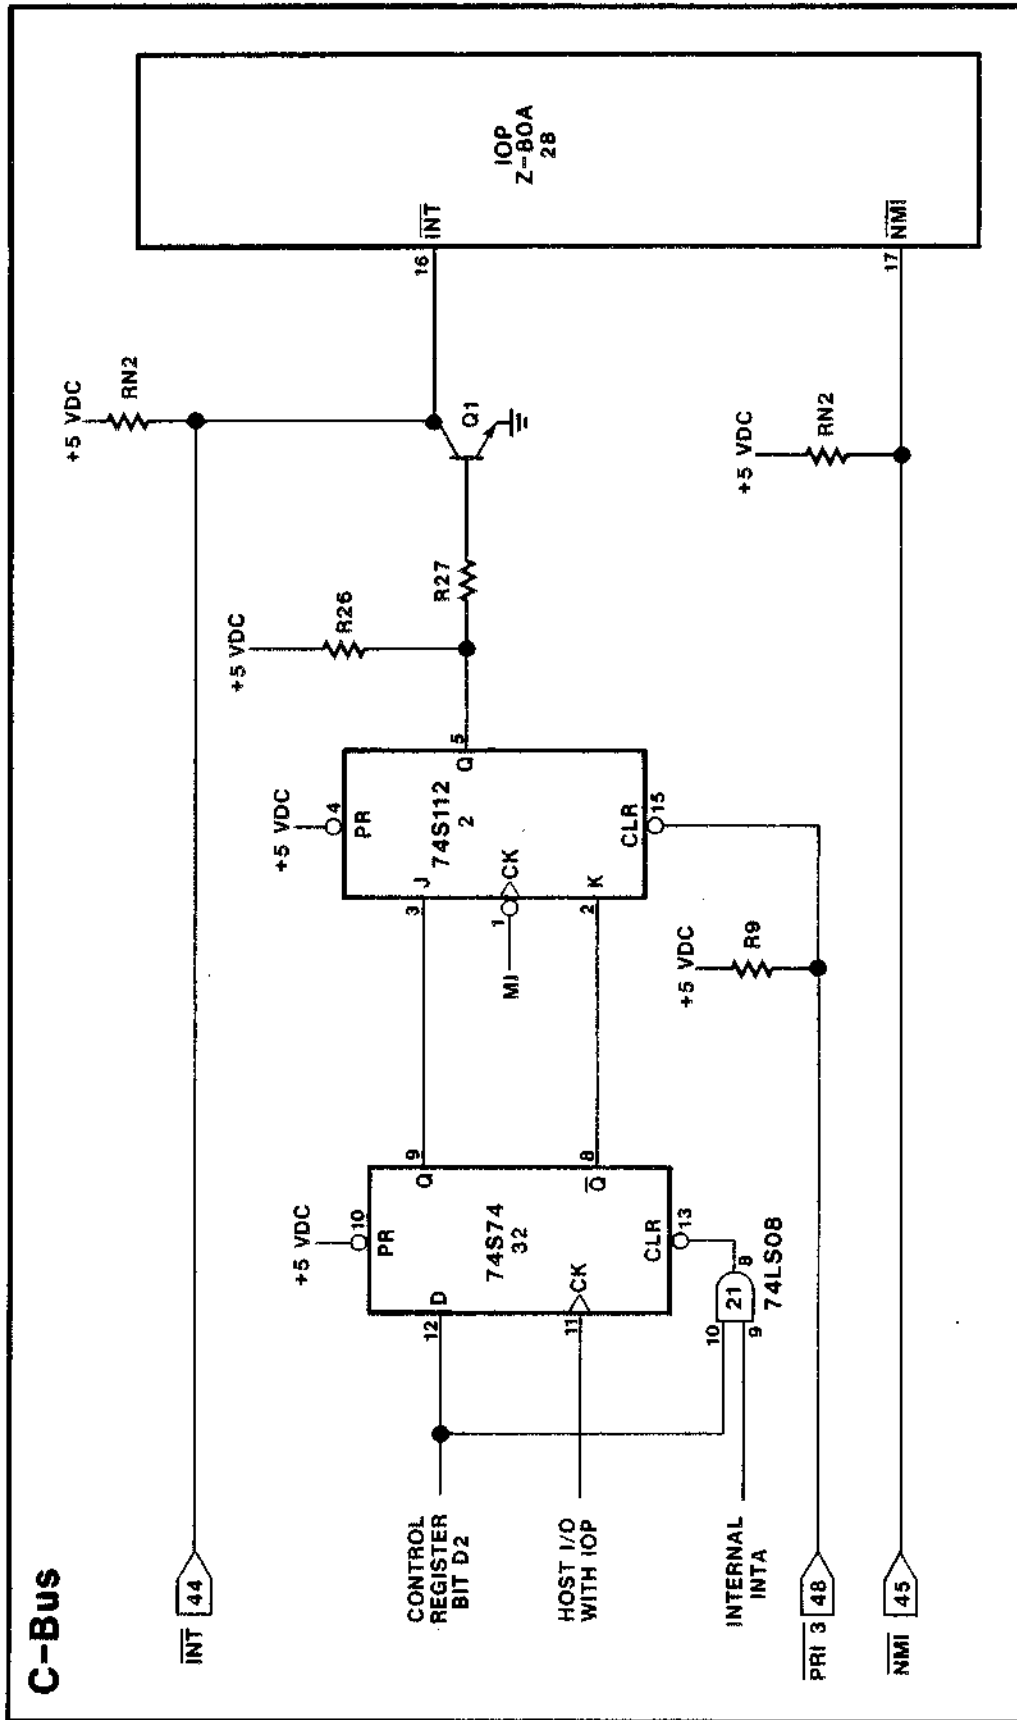
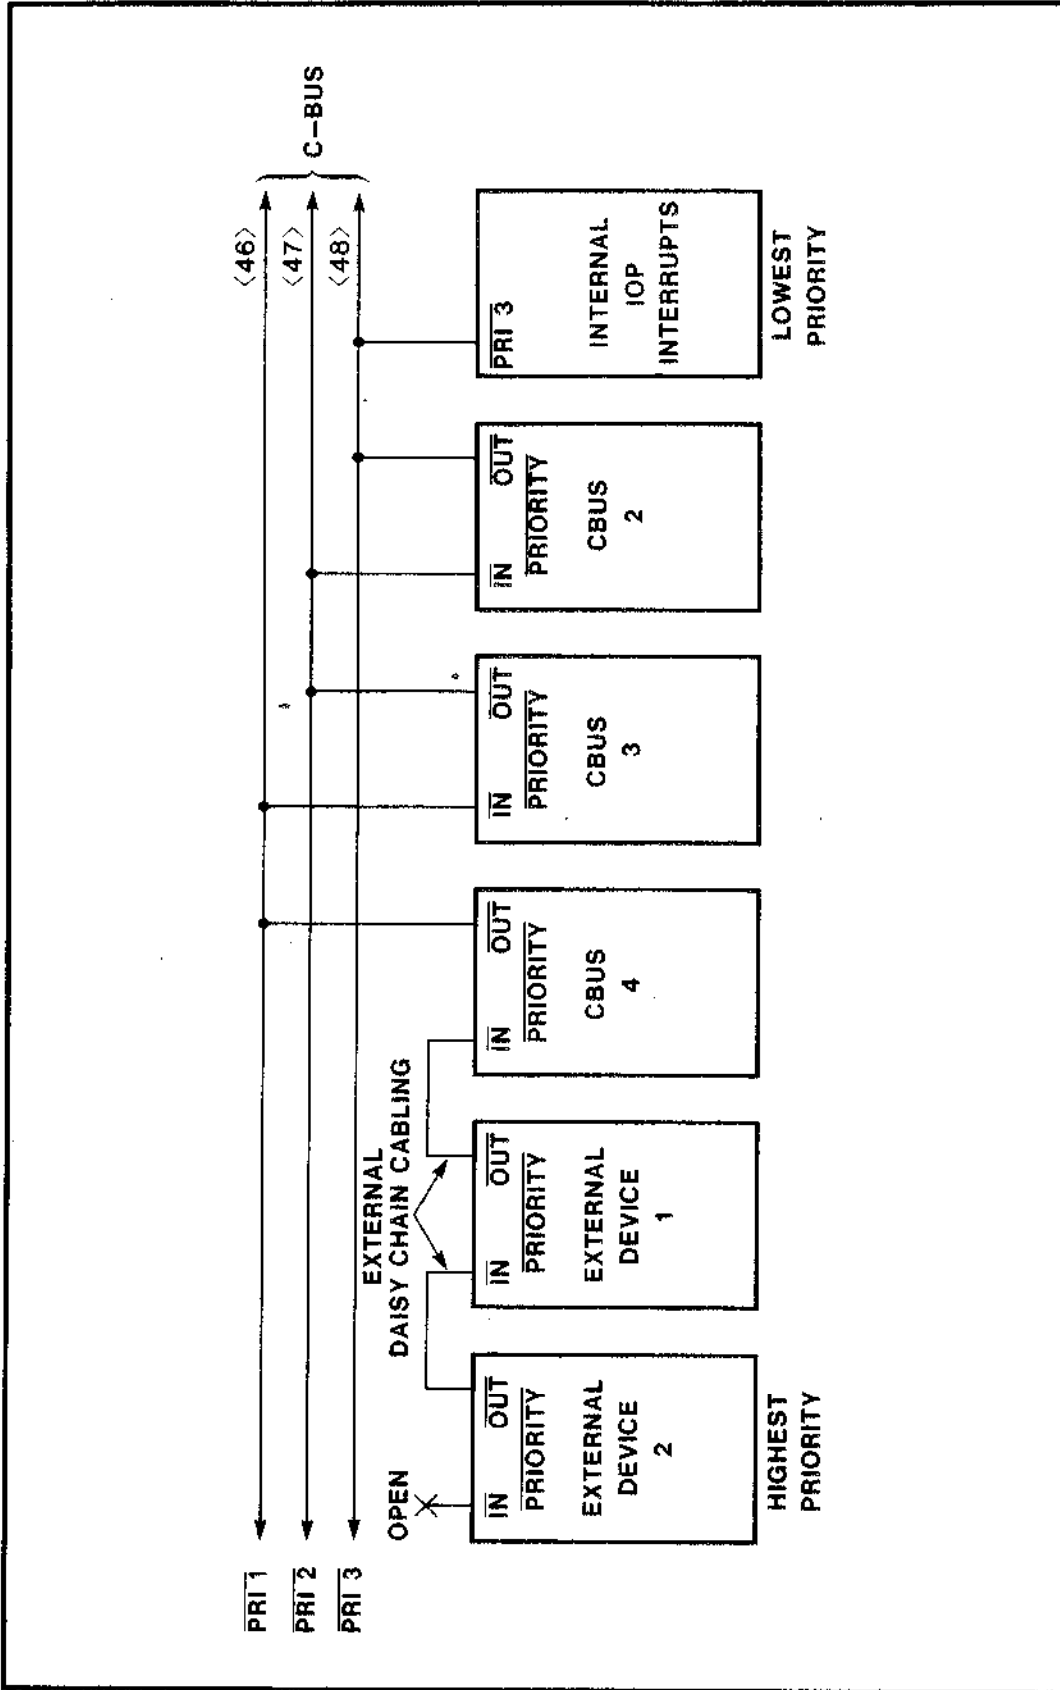

Figure 24: IOP INTERRUPT REQUEST CIRCUITRY
Figure 25: C-BUS PRIORITIES
Non-maskable interrupt requests are issued to the IOP Z-80A by forcing its $\overline{\text{NMI}}$ pin active low; only external peripherals can force this pin low through C-Bus line $\overline{\text{NMI}}$, <45> (see Figure 24). Maskable interrupt requests are issued to the IOP Z-80A by forcing its $\overline{\text{INT}}$ pin active low. Two sources can force this pin low: (1) external peripherals through C-Bus line $\overline{\text{INT}}$, <44>, and (2) host I/O with IOP ports when **Control Register** bit **Enable IOP Interrupts** is set.
The IOP circuitry shown in Figure 24 assigns maskable interrupt requests from C-Bus peripherals higher priority than internal IOP interrupts. To establish these relative priorities, C-Bus peripherals must assert line PRI 3, <48>, low in unison with INT, <44>, to inhibit internal IOP interrupts. Line INT is typically released during INTA from the IOP when peripheral servicing begins, and PRI 3 is released when servicing is completed. Two or more C-Bus peripherals may compete for use of line INT, <44>, and in such cases uncommitted C-Bus lines <46> and <47> may be used to establish priorities and coordinate interrupt requests and acknowledgments among the peripherals. Cromemco's C-Bus product line defines <46> to be PRI 1, and <47> to be PRI 2; these lines are then used to create a C-Bus interrupt daisy chain as shown in Figure 25.
Note the following points when designing a C-Bus interrupt structure using Cromemco C-Bus products connected as shown in Figure 25: